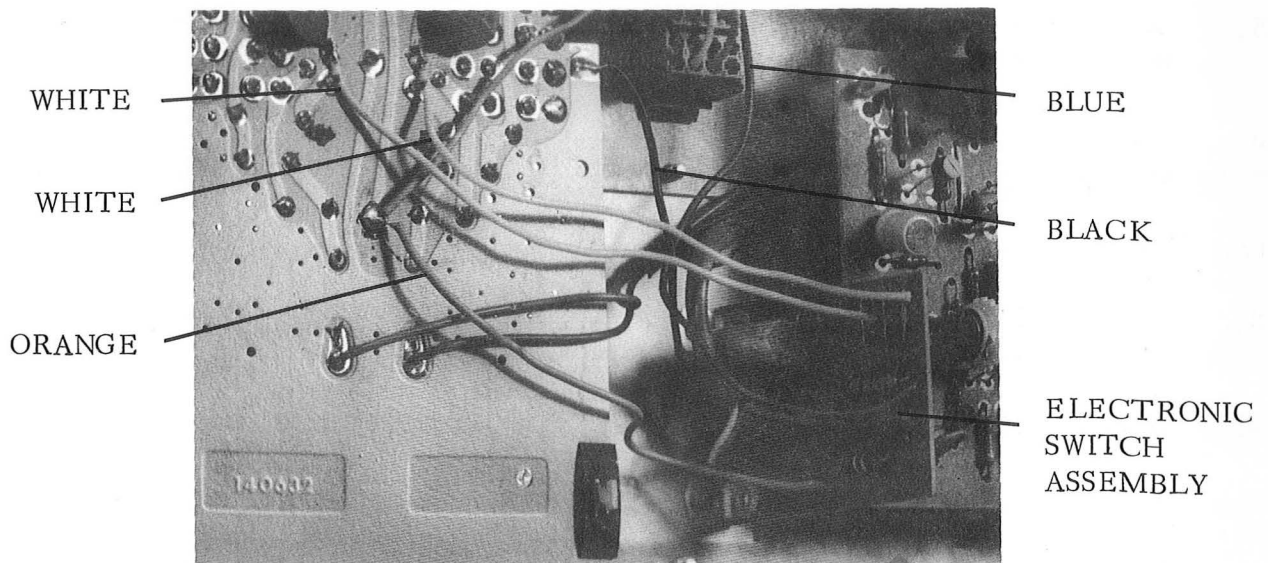

Figure 4.
- a. Connect and solder ORANGE wire to printed board as shown in Figure 4.
- b. Connect and solder two WHITE wires to printed board as shown in Figure 4.
- c. Connect and solder BLACK wire to printed board as shown in Figure 4.